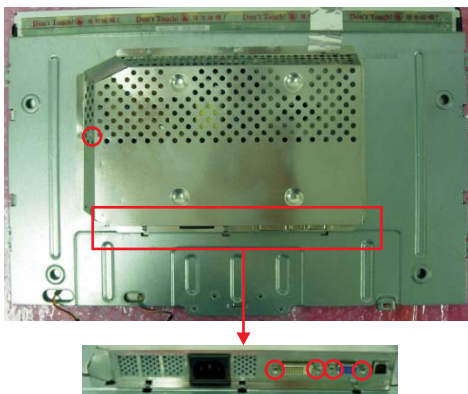

Fig.15
1. Remove the 5 screws to remove the shield as Fig.15.